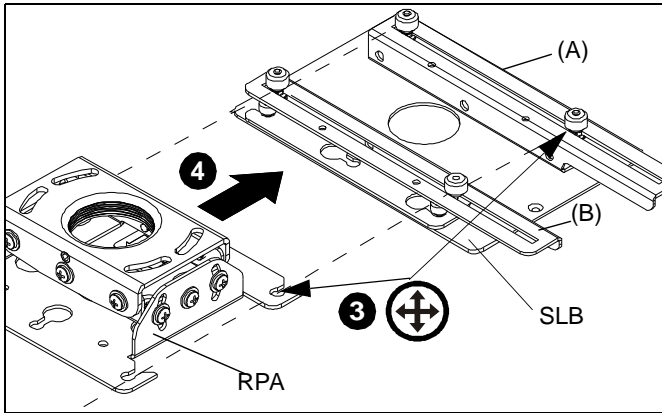

Figure 4
1. Orient RPA projector mount (not included) with LSB100 brackets (A) and (B) on the SLB interface bracket (not included).
2. Loosen (but do not remove) thumb nuts on (A) and (B) brackets.
3. Align the thumb nuts on (A) and (B) brackets with the locating slots on the RPA projector mount. (See Figure 4)
4. Slide RPA onto LSB100 brackets (A) and (B). (See Figure 4)